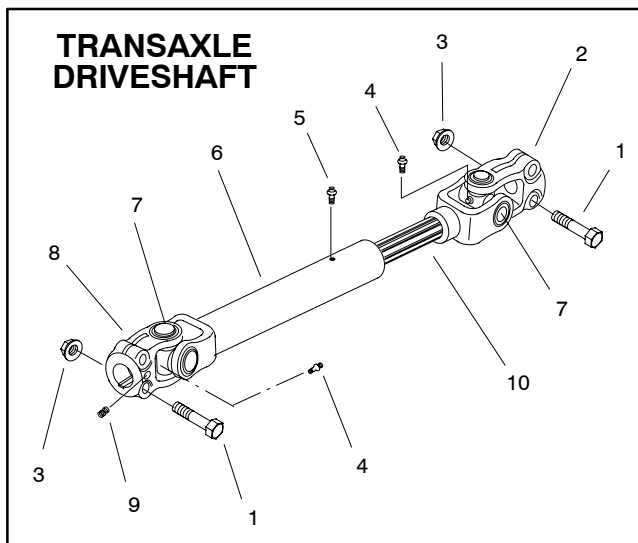

Figure 22
- A. For transaxle driveshaft (Fig. 22) removal, see Pump Drive Gearbox Removal in this section.